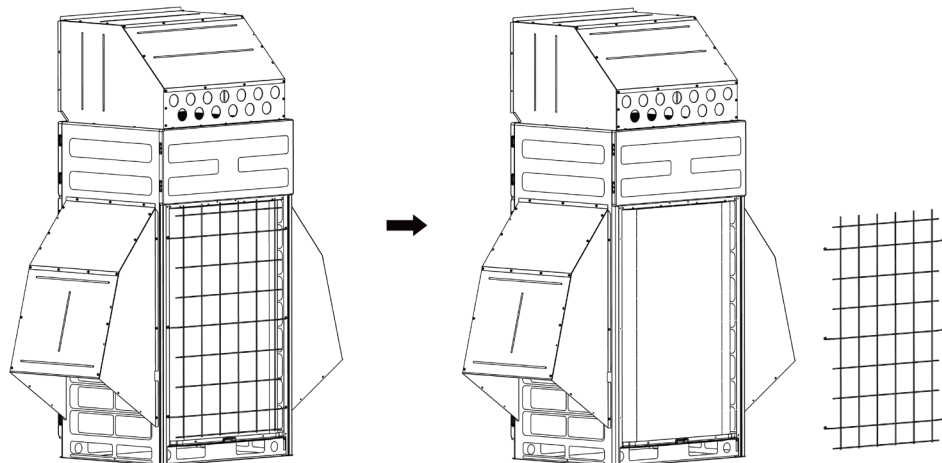

Fig. 3.15
(1) Take down the grille, as is shown in Fig 3.15.